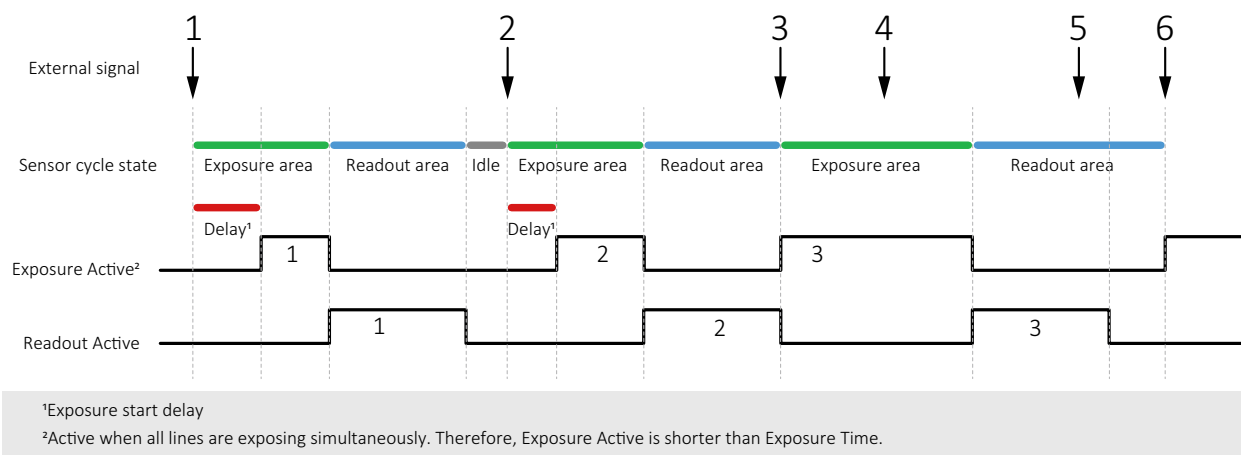

Figure 115: Triggering rolling shutter (RS) cameras
Figure 115 shows how an external signal triggers exposure and readout for cameras with rolling shutter (RS) sensors. Like for global shutter (GS) sensors, readout has a constant duration, acquisition must be active to enable exposure, the end of exposure starts readout.
The signals displayed in Figure 115 represent logical states, not user controls.